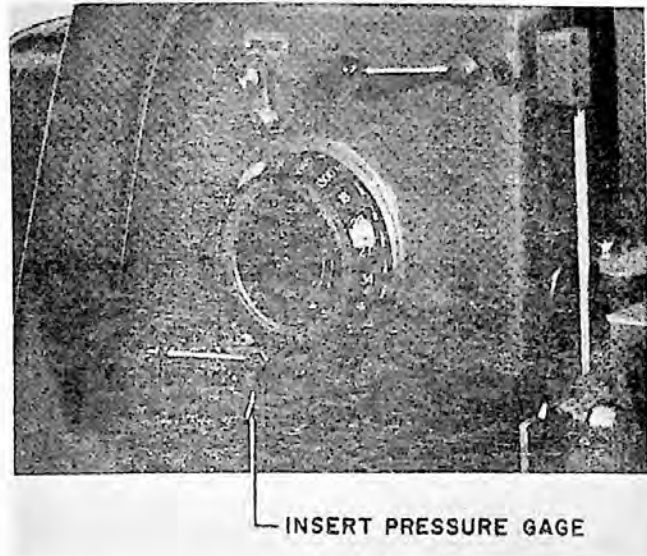

FIGURE 142B
1. Remove $\frac{3}{8}$ " pipe plug from $\frac{3}{4}$ " straight plug at bottom rear corner of gear shifter bracket, left side of column. (Figure 142B) Insert a 500 lb. gage.